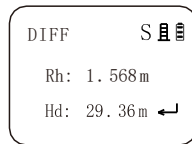
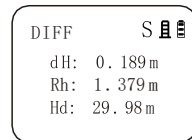

Fig 10
Fig 11
(2) Press mode button, select DIFF.
- (3) Meas. BS(Staff A) will show up in screen firstly. Measure the first staff and get data as Height=1.568 Distance=29.36 (figure 9). Press SET button then Meas. FS(Staff B) shows up. Measure the second staff and get data as figure 10. In few seconds, Height difference will be figured out (figure 11). Height difference=0.189m, Height of Staff B=1.379m, Distance to Staff B=29.98